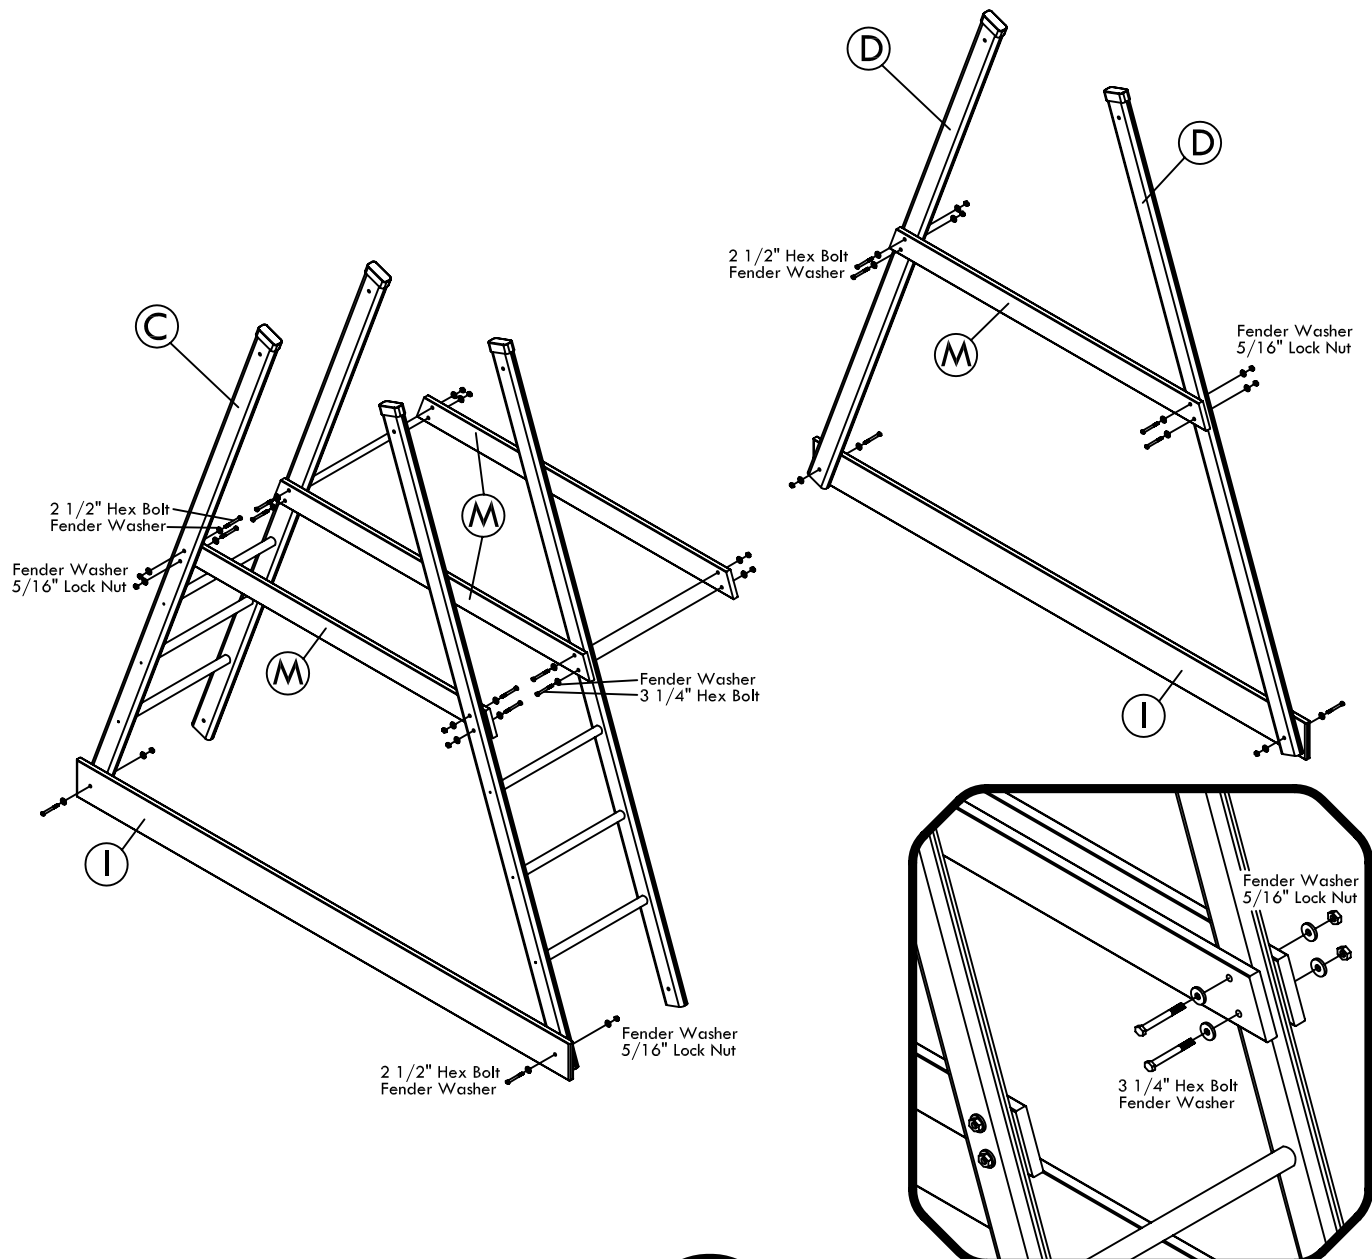

Fig. 2
- (2) Fort Ground Beams 'I'
- (4) Angled Floor Supports 'M'
Step 1: Attach (2) Angled Floor Supports 'M' "sandwiched" around the cranberry posts on Fort ladder with (4) 3 1/4" Hex Bolts, fender washers and lock nuts. (see Fig 2)
Step 2: Attach (1) Angled Floor Support 'M' to inside of Fort Ladder on the side opposite the attached boards from 'Step 1'. These boards will attach with (4) 2 1/2" hex bolts, fender washers and lock nuts.
Step 3: Attach (1) Ground Beam 'I' to outside bottom of Fort Ladders with (2) 2 1/2" hex bolts, fender washers and lock nuts.
Step 4: Attach (1) Floor Support 'M' and (1) Ground Beam 'I' to Fort Uprights with 2 1/2" hex bolts, fender washers and lock nuts as shown. (you must have the correct end of Upright 'D' facing up or improper assembly will result. See Phase 1)